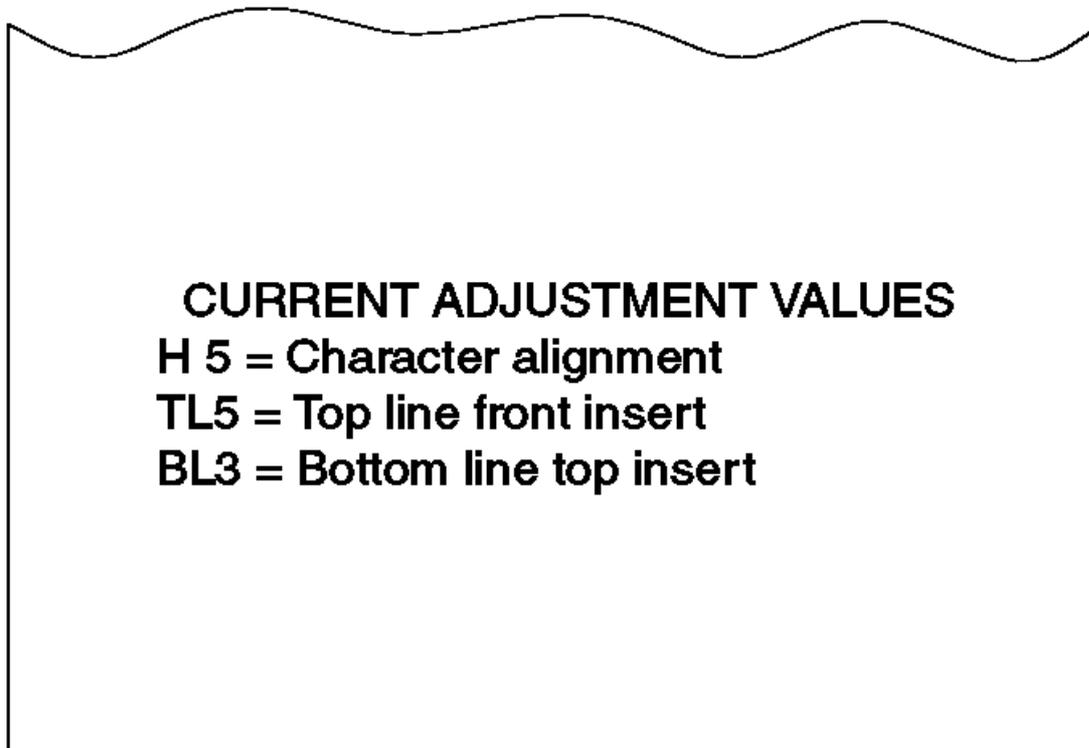

Figure 6-40. Current Adjustment Values
Print Current Adjustment Values - see Figure 6-40 in topic 6.37.2	7, 2, 1, S2
- Print current adjustment values - see Figure 6-40